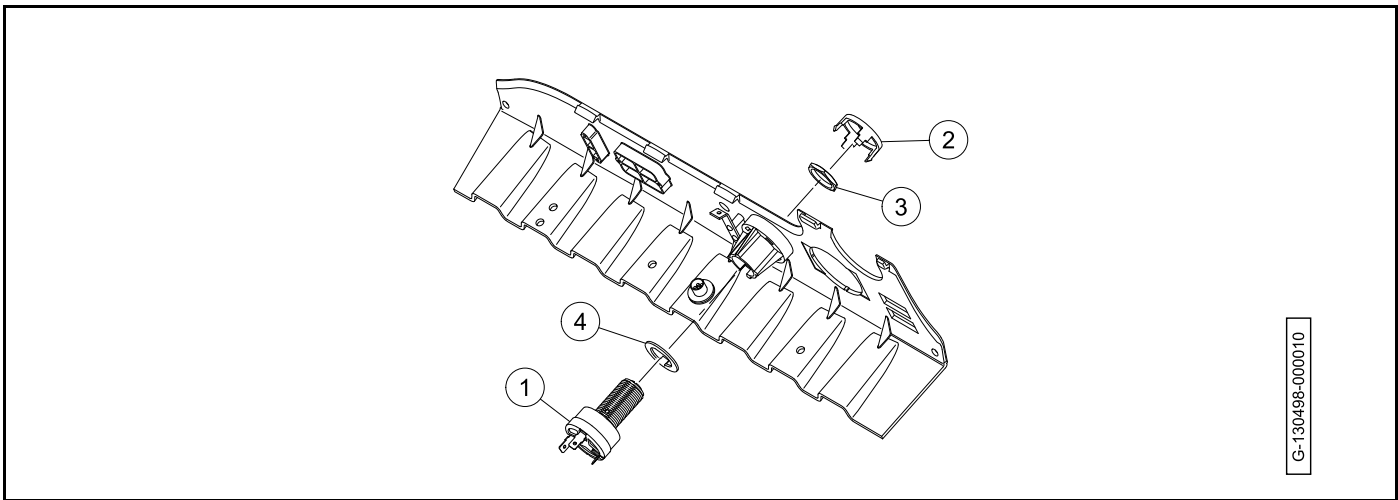

Figure 20-36 Key Switch
3. Disconnect the wires from the key switch (1) (**Figure 20-36, Page 20-32**).
4. From the back of the instrument panel, push down on the retaining tabs and remove the key switch cap (2).
5. Hold the key switch and remove the switch retaining nut (3) from the outside of the instrument panel.
6. Remove the washer (4) and the key switch
1. Install the key switch (1) and washer (4) into the instrument panel (**Figure 20-36, Page 20-32**).
2. Install the key switch nut (3). Tighten the nut to 35 to 45 lb·in (4 to 5 N·m).
3. Install the key switch cap (2).